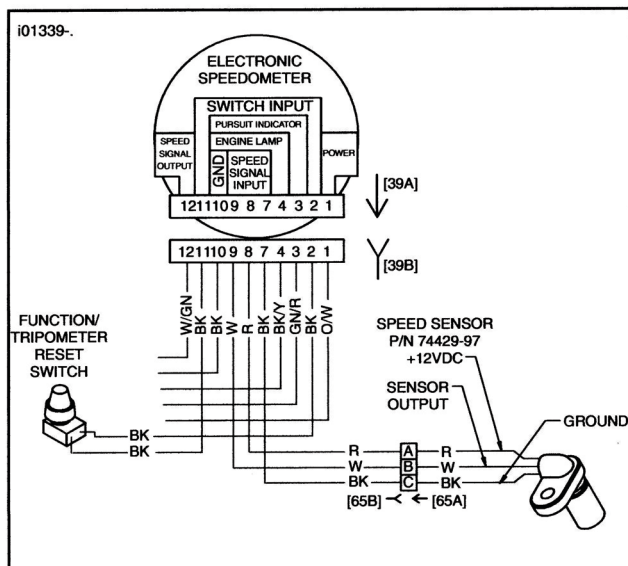

Figure 4. Wires At New Speedo.
2. See Figure 4. Insert terminals into connector half [39B] as shown.
5. See Figure 4. Check that new connector [39B] is wired as shown in Figure 4. Plug connector [39B] into speedometer.
5. See Figure 4. Check that new connector [39B] is wired as shown in Figure 4. Plug connector [39B] into speedo.